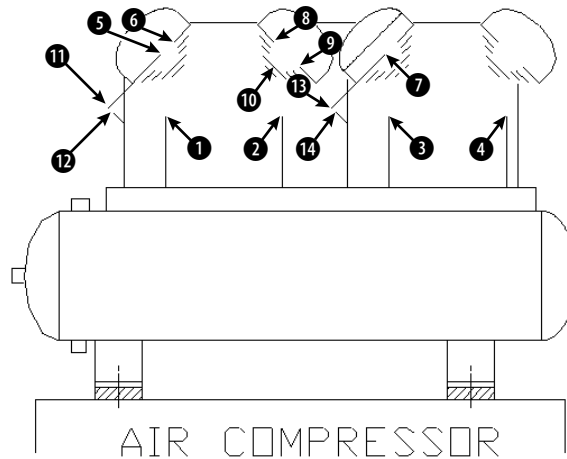

Figure 7-1: The air compressor without its circles.
3.  Choose Circle from the Draw toolbar. Right-click and choose 2P from the shortcut menu. At the Specify first end point of circle's diameter: prompt, pick the endpoint at ❶ in Figure 7-1. At the Specify second end point of circle's diameter: prompt, pick the endpoint at ❷.
4. Repeat the CIRCLE command by right-clicking and choosing Repeat Circle. Right-click and choose 2P from the shortcut menu. Pick the endpoints at ❸ and ❹ in Figure 7-1.
7. Repeat the CIRCLE command by right-clicking and choosing Repeat Circle. At the Specify center point for circle or [3P/2P/Ttr (tan tan radius)]: prompt, right-click and choose 3P. At the Specify first point on circle: prompt, pick the endpoint at 8 in Figure 7-1. At the Specify second point on circle: prompt, pick the endpoint at 9. At the Specify third point on circle: prompt, choose a midpoint object snap and pick the midpoint at 10.
12. Repeat Step 11, choosing the endpoint at 13 for the center of the circle and the endpoint at 14 for its radius, as shown in Figure 7-1.